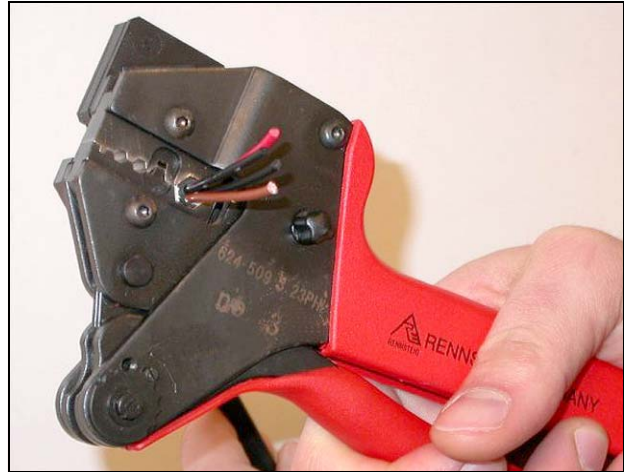

figure 29.9: Crimping the bush
- Crimp the bush on the outer sheath using the crimping tool (tool 3, see figure 29.9). The crimping bush will prevent the cable from rotating in the connector.